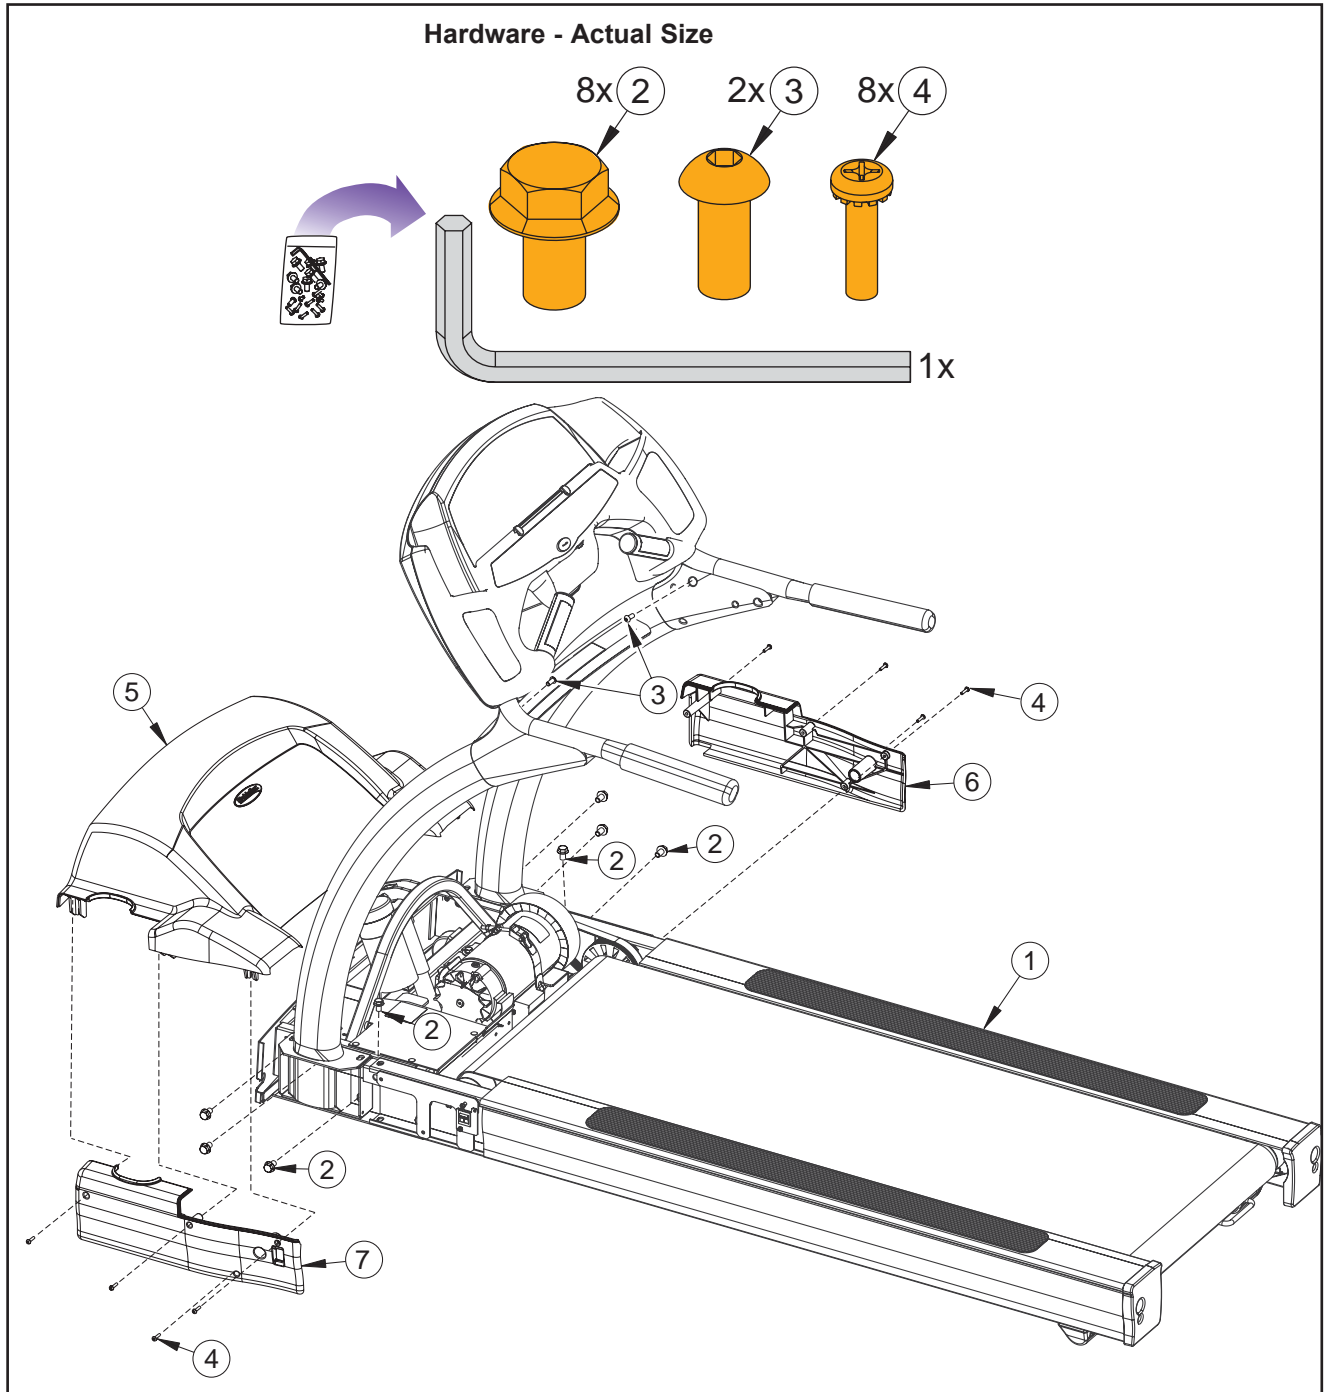

Figure 2
C. Check off () each item in the hardware pack as you find it. See Figure 2.